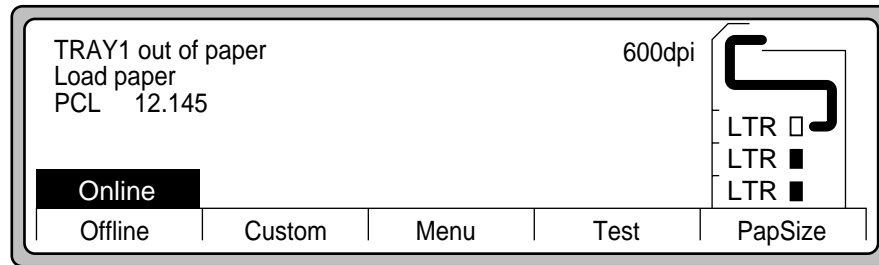

Figure 2-59 Tray 1 Not Ready
4. Close the upper right cover and press **Done** on the Control Panel. You will see the screen shown in Figure 2-59.